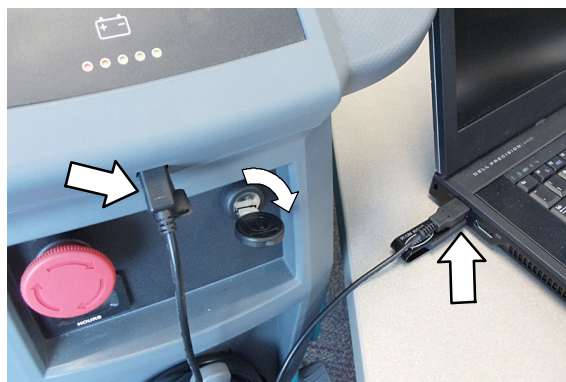

Fig. 17
- Connect the USB cable, supplied with kit, to computer and to the USB port on machine as shown. Turn the key switch to the on position (Figure 17).